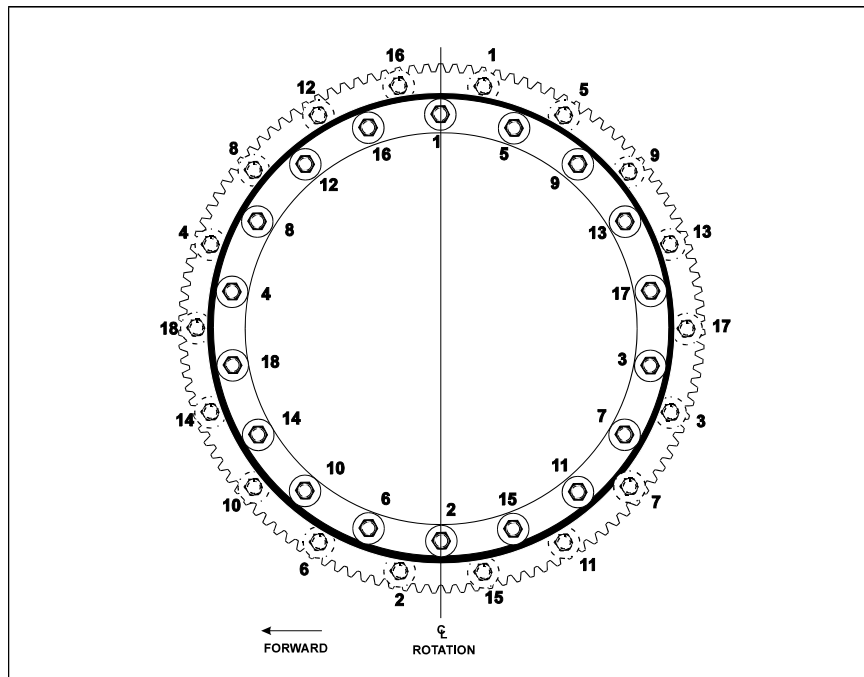

Figure 3-46. Swing Bearing Torque Sequence
- c. Refer to the Torque Sequence diagram as shown in Figure 3-46., Swing Bearing Torque Sequence. Clean any residue off the new bearing bolts, then apply a light coating of Loctite #271 and install the bolts and washers through the frame and outer race of the bearing. Tighten the bolts to an initial torque of 190 FT. LBS. (260 Nm) w/Loctite.